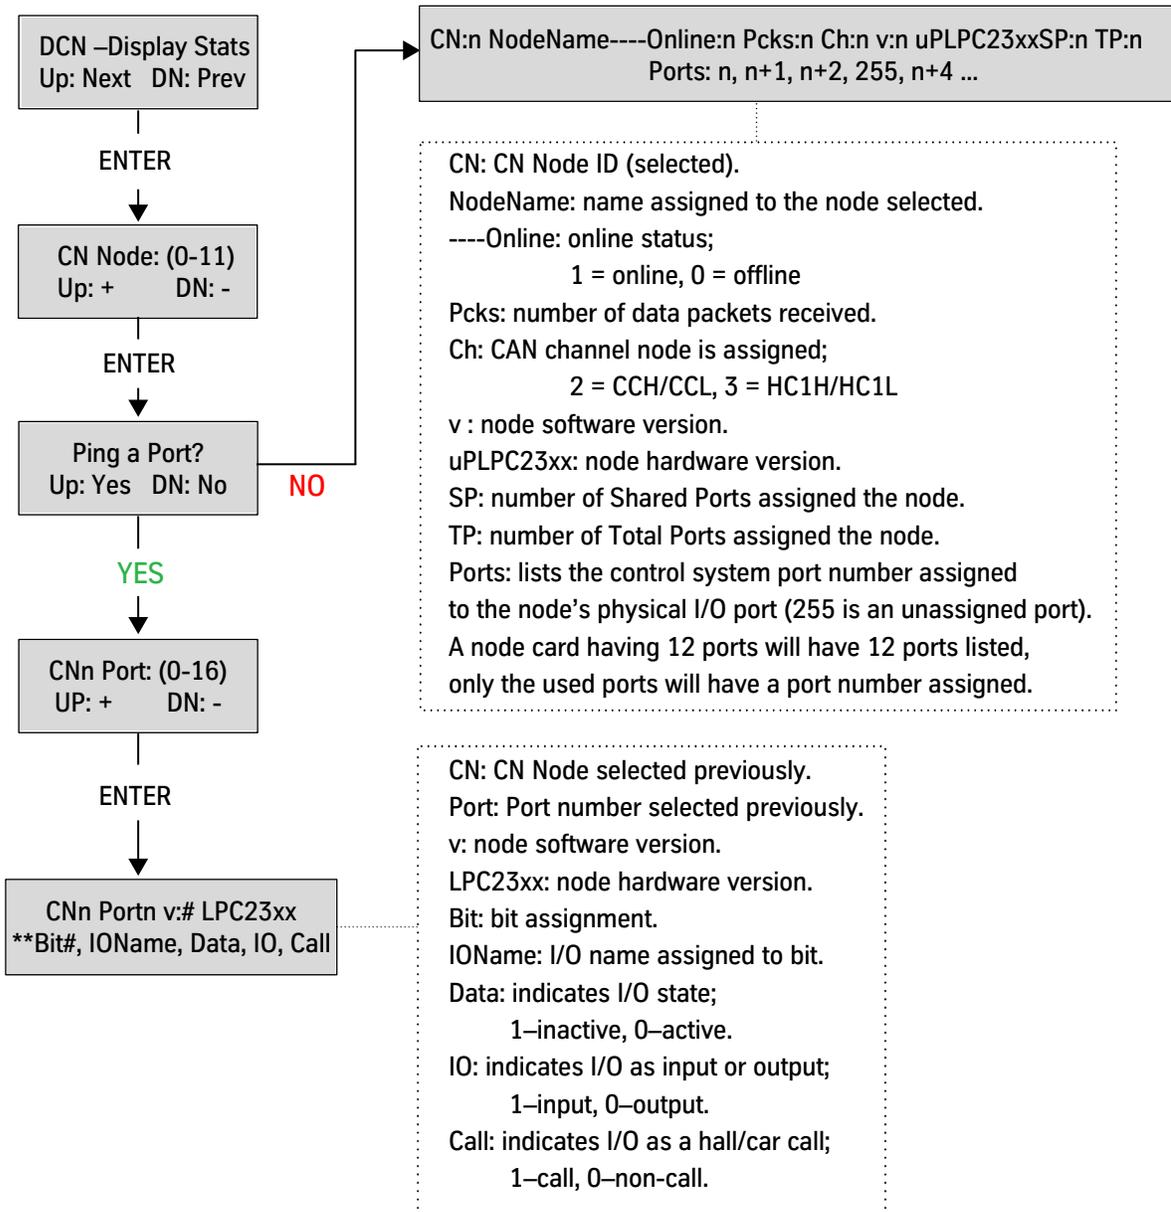

Figure 4 - Ping a CN Port Flowchart
4. Press **ENTER**, and the selected CN Card displays. The ping information scrolls across the display. See Figure 4.